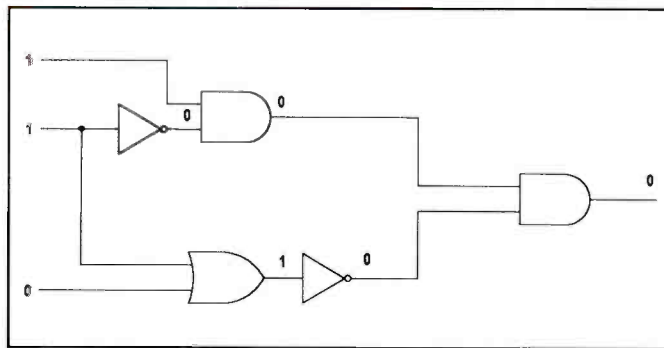

Figure 2.
4. Write the logic level at the output of each gate, and note that there is a logic level 0 at the input of the right-hand AND. That makes the output zero. (Figure 2)